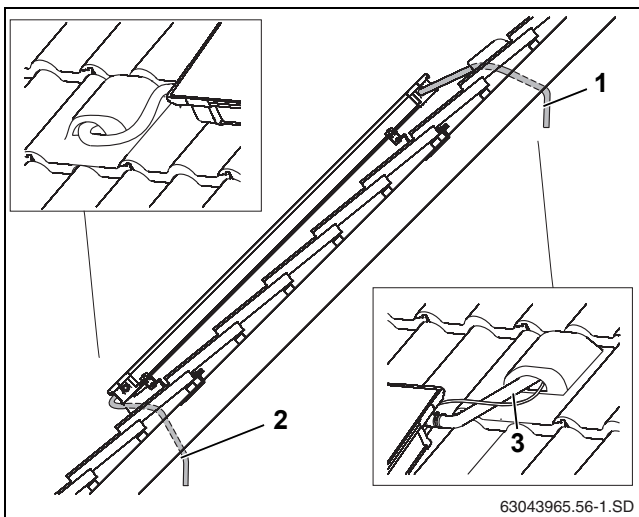

Fig. 47 Run the cables under the rooftop
- ▶ Run the hose together with the probe cable along the ventilated tile (Fig. 47, [1]) and through the rooftop insulation.